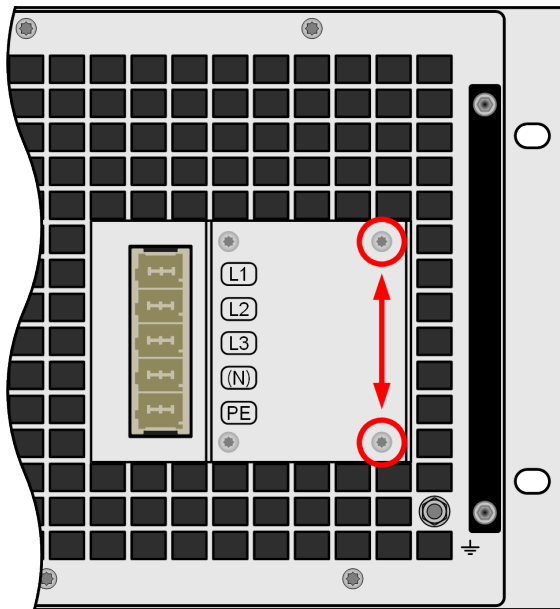

Figure 11 - Mounting position of the mounting bracket
1. Loosen the two screws on the right side of the AC filter, as marked in *Figure 11*.